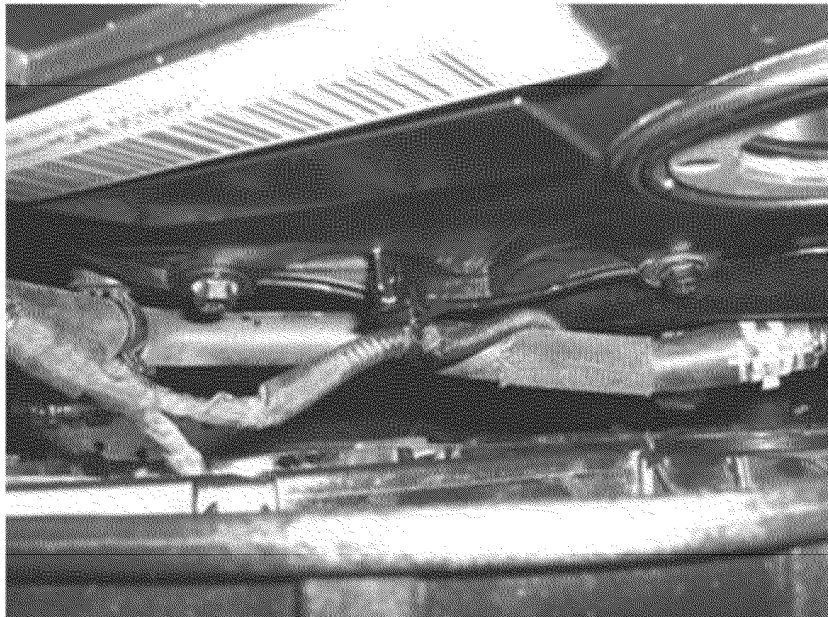

Figure 3. Wire harness.
4. Remove wire harness from timing chain cover (Figure 3).